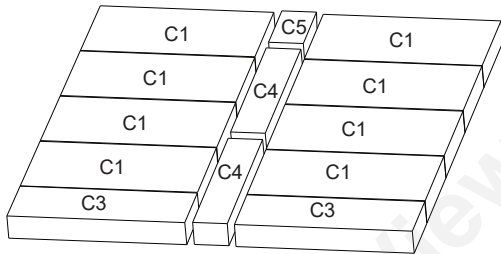

Figure 2
3. Lay bottom bricks in appliance (**Figure 2**).